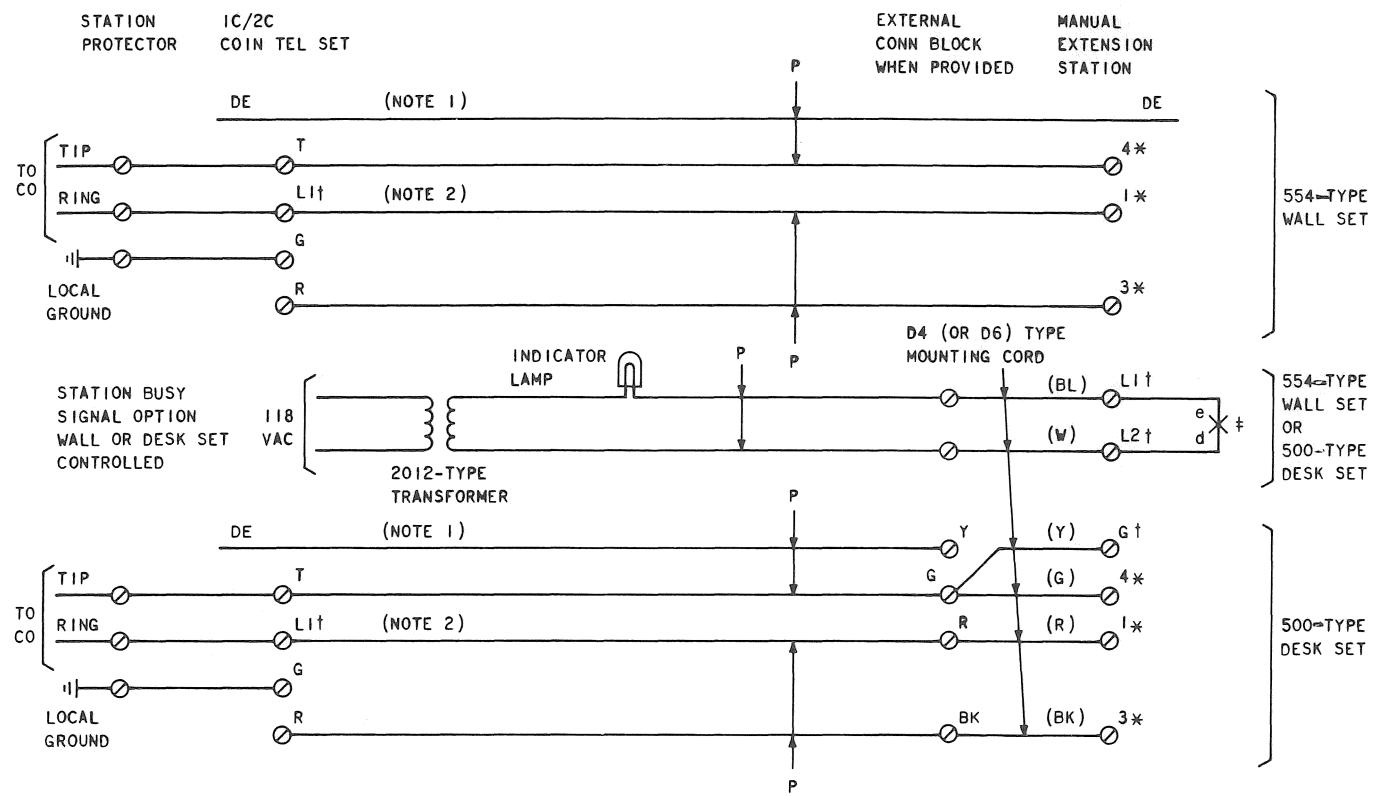

Fig. 1—Connections For Manual Extension Station Service With Station Busy Signal Option In Association With Semi-Public 1C/2C-Type Coin Telephone Set
- 3.01 Fig. 1 illustrates connections to the coin telephone set, manual extension station and, when provided, an optional station busy visual signal which will indicate when the extension station is off-hook.
- 2.01** The 840360572 replaceable coin vane (Fig. 1) is a part of D-180410 Kit of Parts.